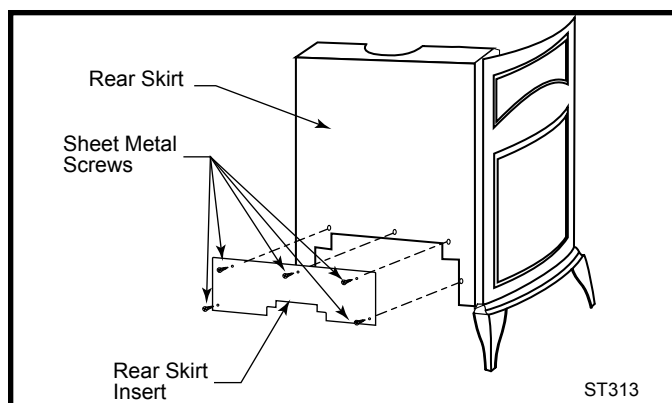
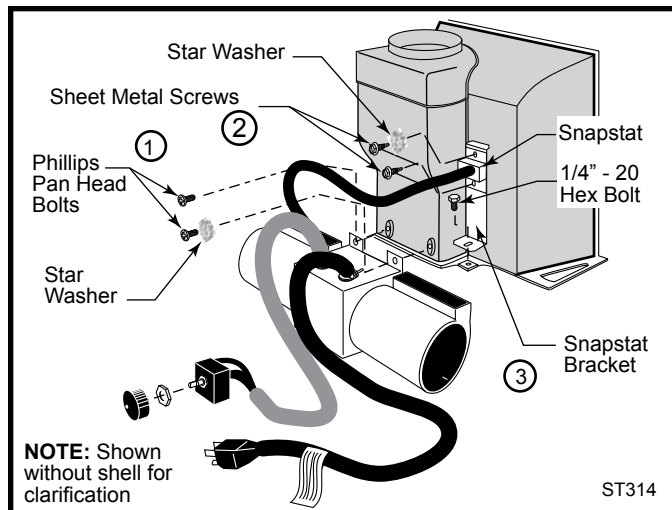

Figure 15 Remove rear skirt insert.
Figure 16 Attach the fan assembly and the snapstat.
2. Remove the rear skirt insert panel at the bottom of the Rear Skirt (Figure 15) and fasten the blower assembly to the firebox back with the two Phillips pan-head bolts originally installed in the firebox back. ('1', Figure 16)
3. Attach the snapstat assembly to the snapstat bracket with two sheet-metal screws. ('2', Figure 16) Attach the snapstat bracket to the stove with a hex-head bolt passing through the bracket and into the stove base. ('3', Figure 16)